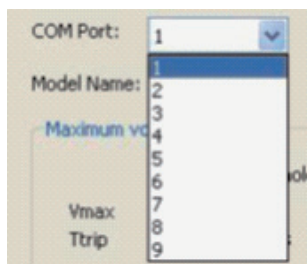
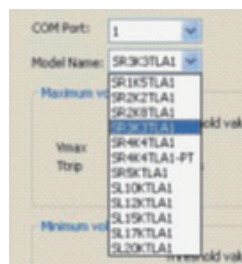

Figure 34
Figure 35
2. On the display Main Menu find Settings → AutoTest Ita. as per fig.35 and press OK. Then select "New Autotest", press OK, and after few seconds, you can see "(OK) to start Grid R V_max" on the LCD.
4. After grid R V_max test is over, the LCD will show the result and "(OK) to start V_min". The inverter will reconnect automatically.
6. After grid R V_min test is over, the LCD will show the result and "(OK) to start F_max". The inverter will reconnect automatically.
8. After grid R F_max test is over, the LCD will show the result and "(OK) to start F_min". The inverter will reconnect automatically.
10. After grid R F_min test is over, the LCD will show the result and "(OK) to start Grid S V_max". The inverter will reconnect automatically.
12. After grid S V_max test is over, the LCD will show the result and "(OK) to start V_min". The inverter will reconnect automatically.
29. Select the corresponding models and communication port (PC and the inverter connection port: com1 ~ com9), as shown in figure 34 and figure 35.